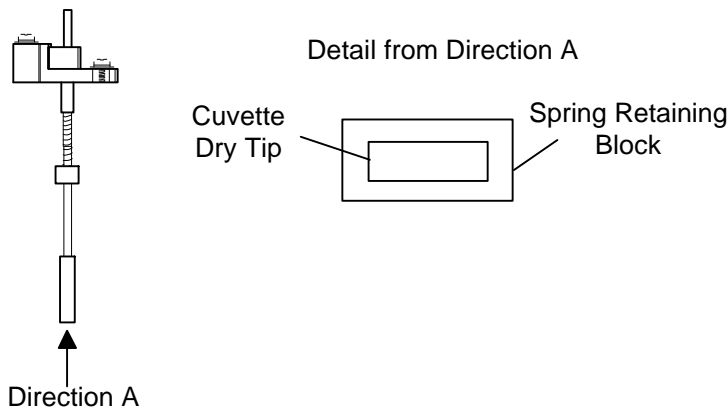

Figure 3. Orientation of Cuvette Dry Tip to the Spring Retaining Block
- 12. Slide the Cuvette Dry Tips on the Dry Nozzles. Orient each Cuvette Dry Tip in the direction of the Spring Retaining Block (Figure 3)